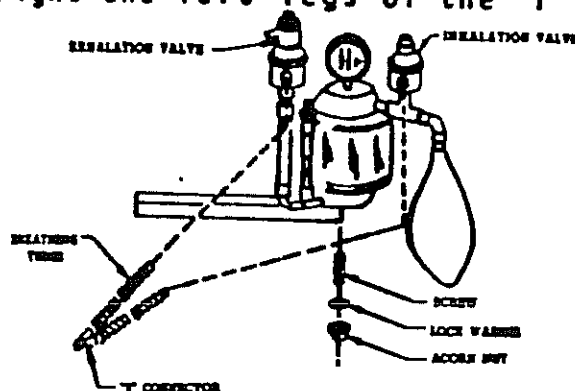

Figure 8 - VMS Assembly
3. Align the new extended, mounting bracket holes to the mounting screws in bottom of absorber plate (see Figures 8 and 12). Attach, using acorn nuts/washers (previously removed), by turning clockwise to tighten.